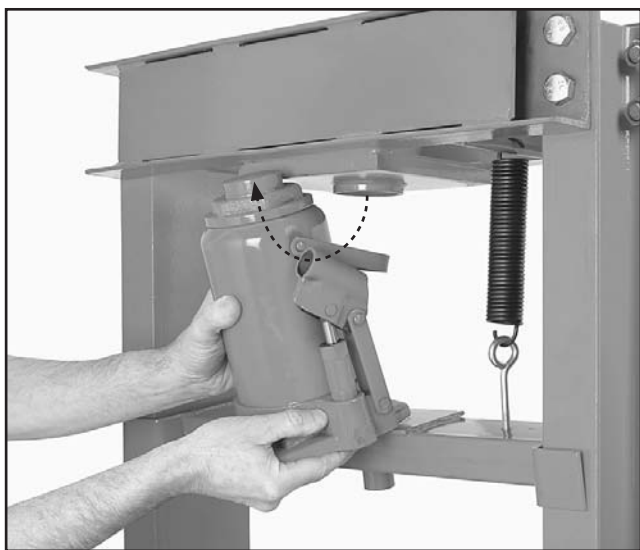

Figure 23. Jack removal.
2. Push down on the press bar until the jack ram is free of the ram receiver, and lift the jack out of the press as shown in **Figure 23**.